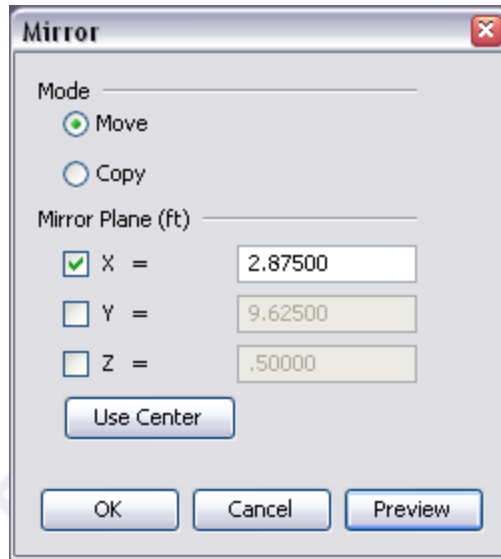

Figure 114. The mirror dialog
3. This will show the Mirror dialog as in Figure 114.